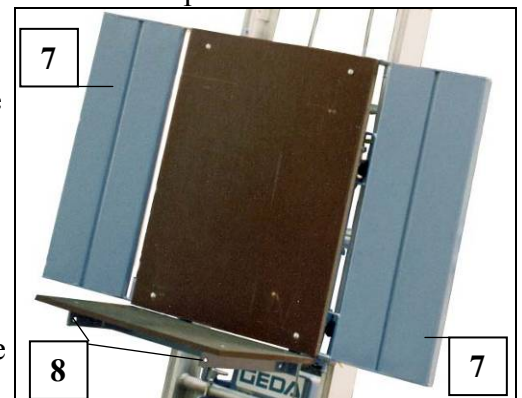

Fig. 43 Universal platform
- Remove the outside nuts (11) and split washers from the preassembled screws (M12 x 40).
- Feed the front guard with the screws (10) on the front bore holes of the bearing section (see Fig. 43 Pos. 8) of the universal platform.
- Mount the split washers and nuts (11) on both sides.
- Tighten both outside nuts (11).